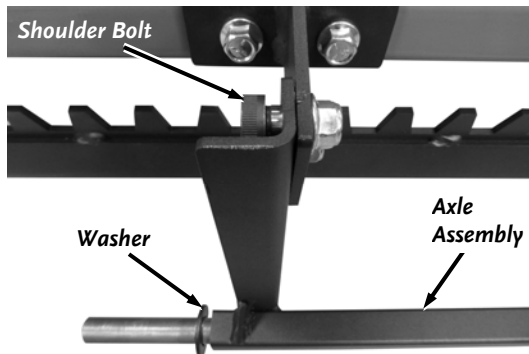

Figure 20
23. Position the Axle Assembly on the outside of the Axle Brackets (**Figure 20**). Align the top holes of the Axle Brackets to the holes in the Axle Assembly and secure with 1/2" X 3/8"L, 3/8-16 Shoulder Bolts (head facing out) and flange Locknuts using a 1/4" Allen Wrench and 9/16" Wrench.